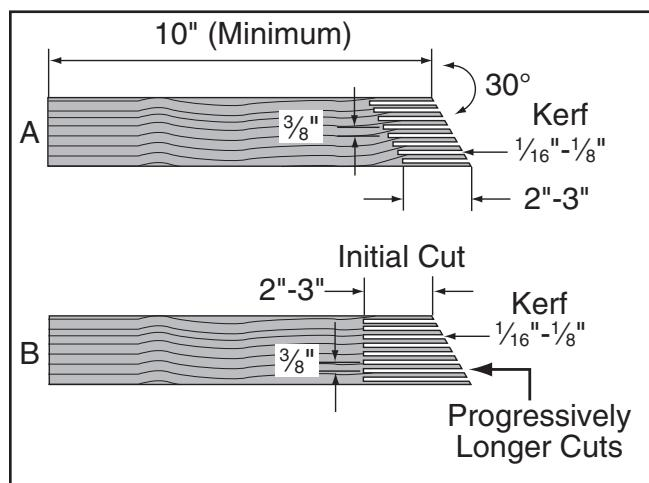

Figure 77. Patterns for featherboards (top view).
3. Make a series of end cuts with grain $\frac{3}{8}$ "– $\frac{1}{4}$ " apart and 2"-3" long, as shown in **Figure 77 (A)**. Alternatively, start cuts at 2"-3" deep, then make them progressively deeper, as shown in **Figure 77 (B)**.